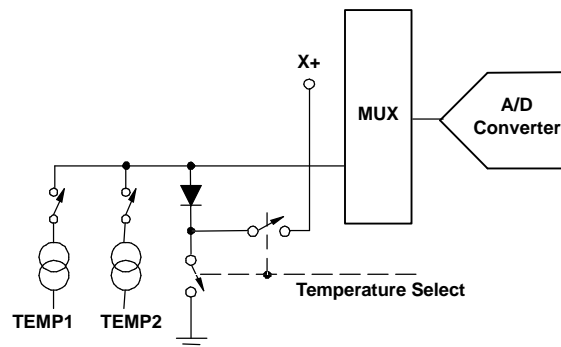
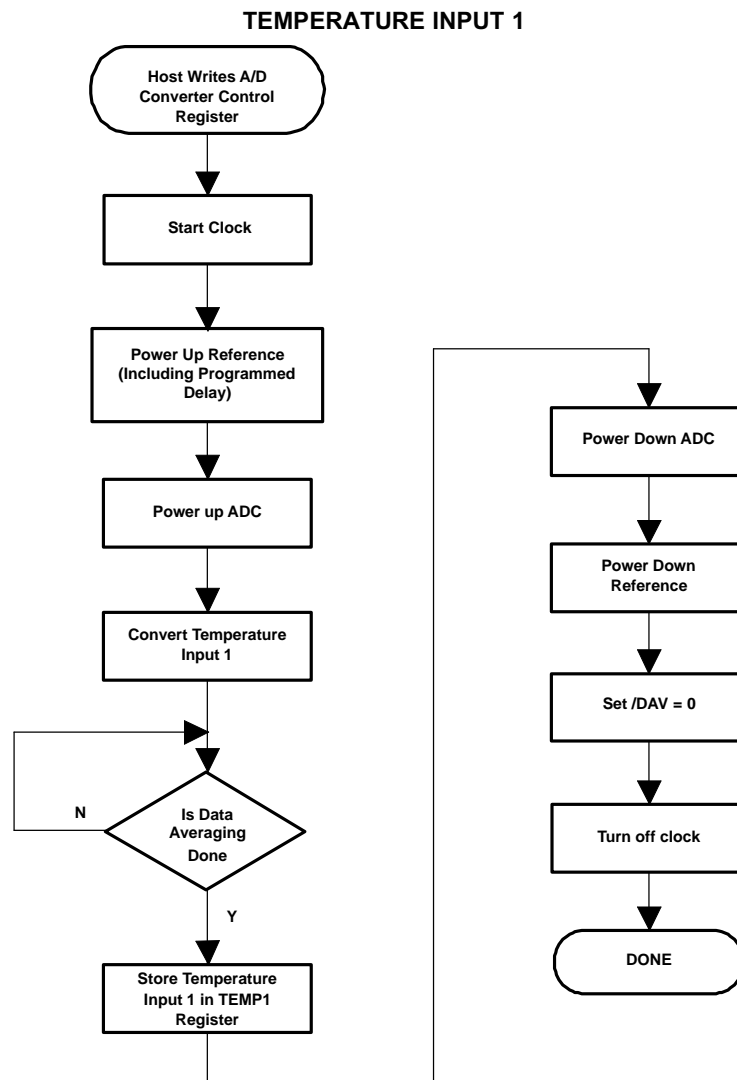

Figure 56. Functional Block Diagram of Temperature Measurement Mode
Figure 57. Single Temperature Measurement Mode
The TSC2302 offers two modes of temperature measurement. The first mode requires calibration at a known temperature, but only requires a single reading to predict the ambient temperature. A diode, as shown in Figure 56, is used during this measurement cycle. The voltage across this diode is typically 600 mV at 25°C while conducting a 20-μA current. The absolute value of this diode voltage can vary several millivolts, but the temperature coefficient (TC) of this voltage is very consistent at -2.1 mV/°C. During the final test of the end product, the diode voltage would be measured by the TSC2302 ADC at a known room temperature, and the corresponding digital code stored in system memory, for calibration purposes by the user. The result is an equivalent temperature measurement resolution of 0.3°C/LSB. This measurement of what is referred to as Temperature 1 is illustrated in Figure 57.